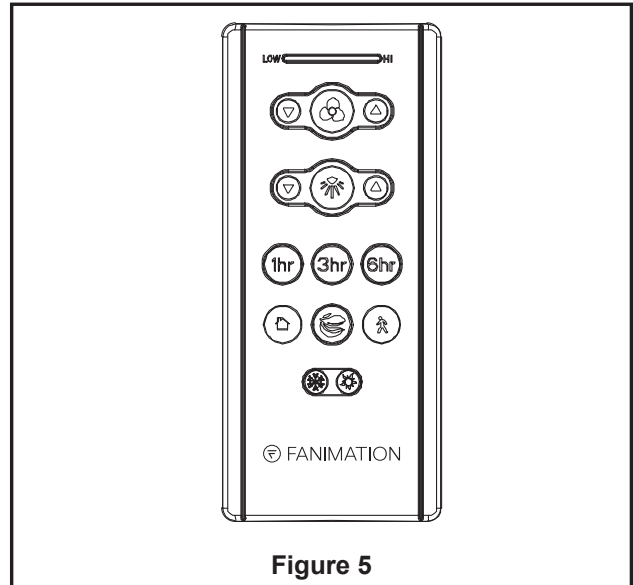

Figure 5
- ☐ 4. If your receiver slid out of the bracket at all while wiring your fan, slide it all the way into the hanger bracket, taking care not to pinch the wires. The canopy comes up to cover the receiver and hanger bracket. (Figure 5)
- ☐ **5.** Assemble the LED assembly to the light plate assembly using the two key slots. Replace the removed screw in Step 2 and secure all three screws. (Figure 5)
5. Remote functions: (Figure 5)